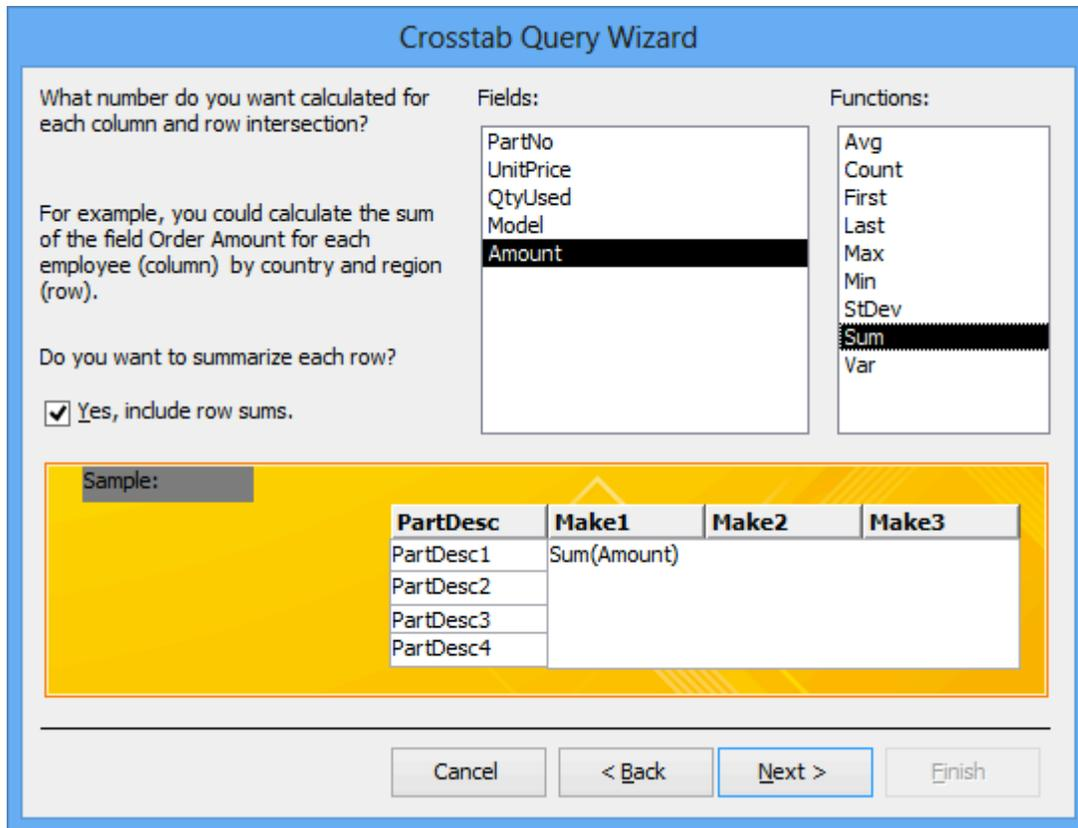

Figure 36: Cell Expression
5. Add Calculated Column: In the next window, modify the expression under the *Make* column. Select “Amount” from the Fields list column (left side) and select “Sum” from the Functions list column (right side). Your expression should appear as “Sum(Amount)” as in Figure 36. Click the **Next** button.